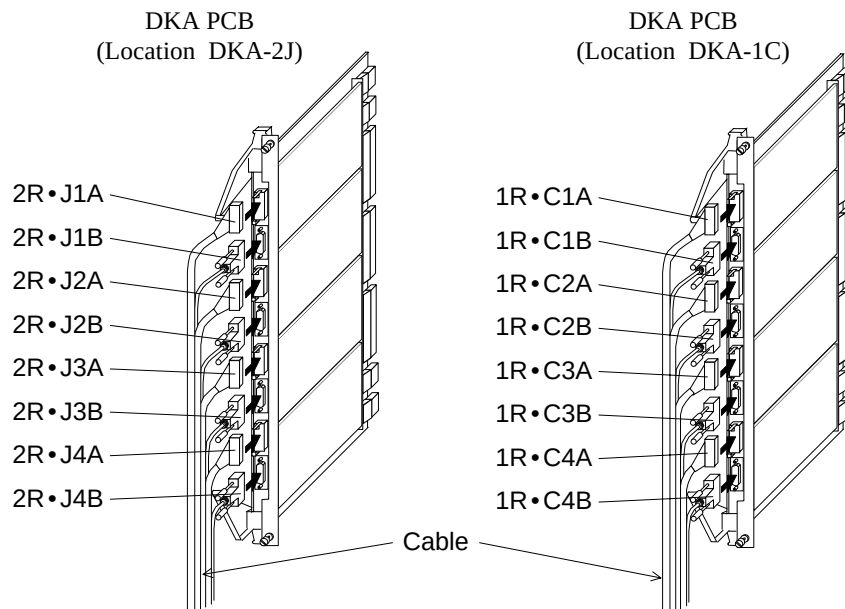

Fig.3.11.4-3 Connection of cable (Add.1)
a. Connect the cables to the sub-edge of PCBs. (Refer to Fig. 3.11.4-3.)